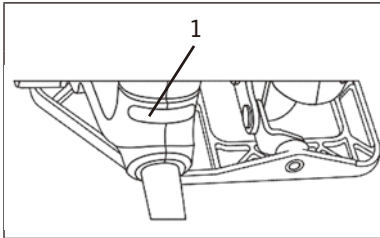

FIG. 8
The live wire indicator (1) will turn ON when the plug is inserted into a "live" 110V receptacle (Fig. 8). If the live wire indicator fails to turn on, this indicates the plug is not inserted into a "live" receptacle.